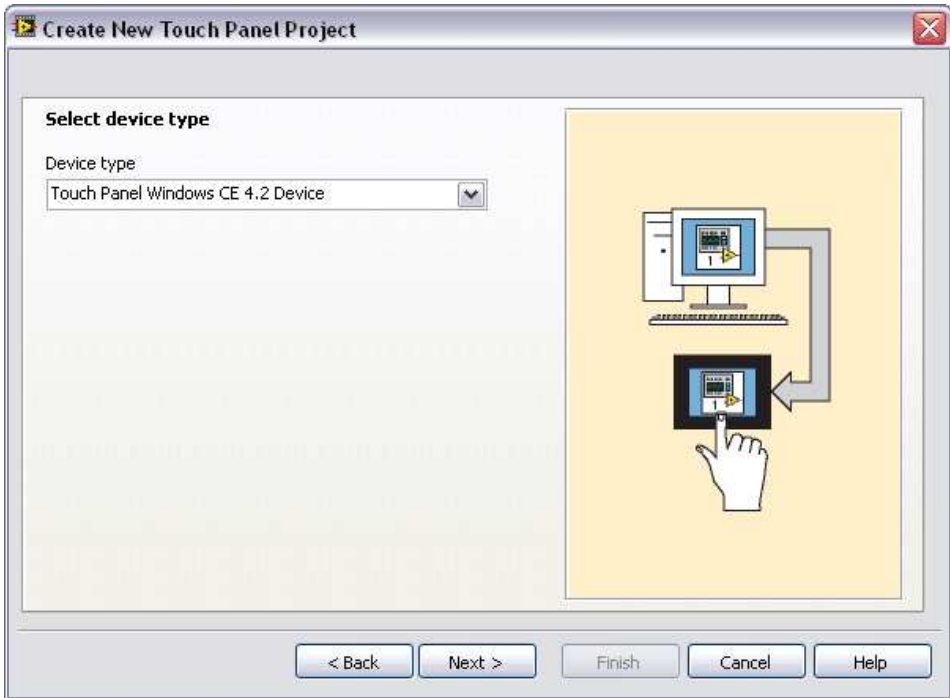

Figure 3. Selecting the Touch Panel Device Type
6. Select the Touch Panel device you are using from the **Device type** drop-down list as shown in Figure 3.